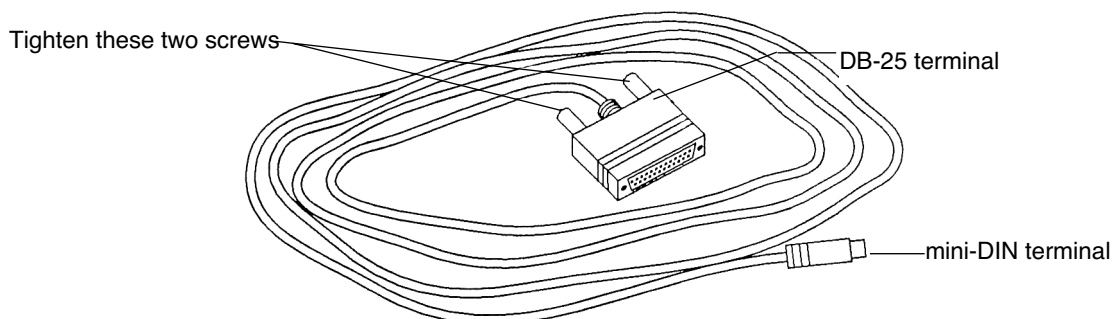

Figure 3. RS 232 cable terminals
3. **Connect the RS 232 electrical cable (Figure 3).** Plug the DB-25 terminal into the RS 232 port on the printer. By hand, tighten the two screws on the DB-25 terminal.